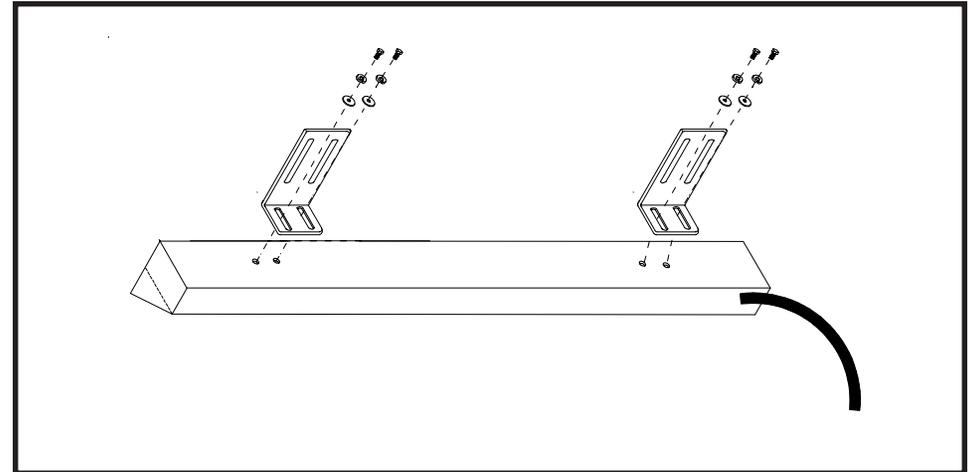

Figure 4
- 4) Turn the light bar right side up and attach the Compact Traffic Master to its mounting bracket as shown in Figure 4.